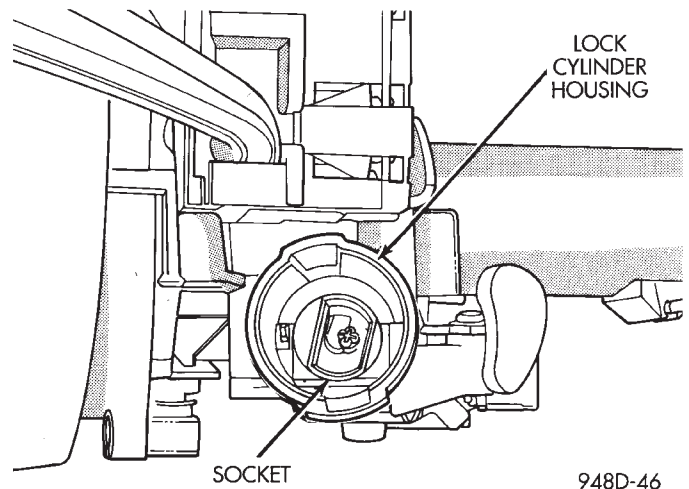

Fig. 67 Socket in Lock Cylinder Housing
- (1) Install key in lock cylinder. Turn key to run position (retaining tab on lock cylinder can be depressed).
- (2) The shaft at the end of the lock cylinder aligns with the socket in the end of the housing. To align the socket with the lock cylinder, ensure the socket is in the Run position (Fig. 67).
- (3) Align the lock cylinder with the grooves in the housing. Slide the lock cylinder into the housing until the tab sticks through the opening in the housing.